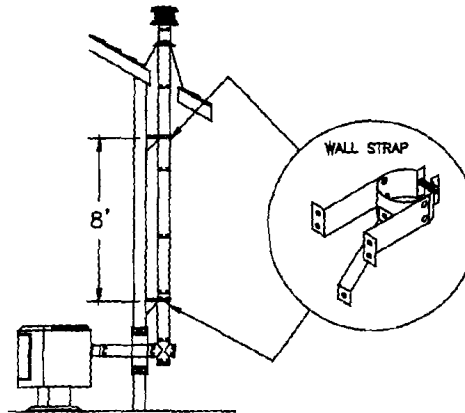
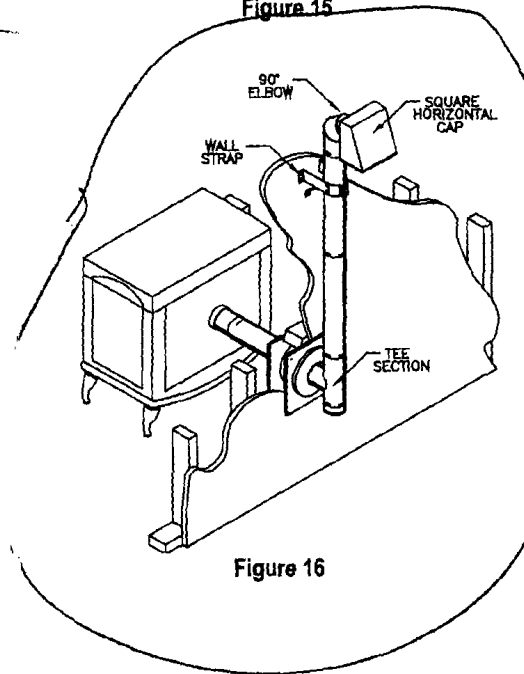

Figure 15
Figure 16
D. Attach Wall Strap just above the tee. Wall Straps must be placed every 8-feet along an exterior vertical run (Figure 15). If your exterior vertical run terminates horizontally before penetrating the roofline, install at least one Wall Strap on the Pipe Section before 90 Degree Elbow and Horizontal Cap (Figure 16). Under no circumstances can a Vertical Cap be installed adjacent to vertical wall. PelletVent Pro offers fixed and Adjustable Wall Straps to maintain a 1"-3" clearance, as desired. If Assemble Pipe Sections in the same manner described in Step 2 of the general instructions.